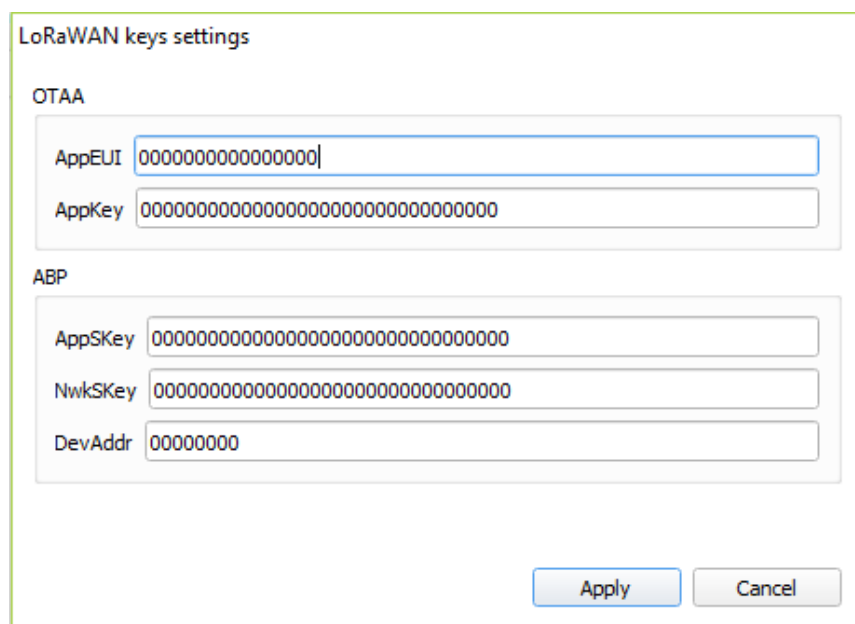

Figure 12 — “Edit device keys” window at “Key management” field
3.4.2.3 «Key management» (not displayed in the "Simple" mode) – allows you to change the factory device activation keys or reset the keys back to the factory settings (fig. 12).